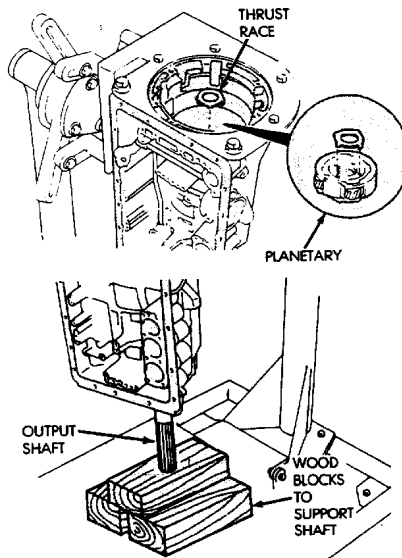

Fig. 36 Relieving Load On Planetary Snap Ring
(44) Remove planetary thrust race (Fig. 36).
(45) Relieve load on planetary snap ring as follows: Loosen transmission holding fixture. Turn transmission over and allow output shaft to support transmission weight. Place wood blocks under shaft to protect splines (Fig. 36).